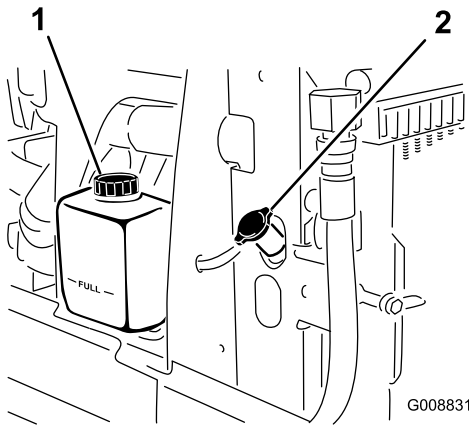

Figure 72
1. Carefully remove the radiator cap and expansion tank cap (Figure 72).